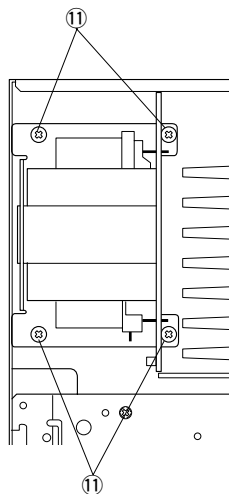

Fig. 8
- h. Remove 4 screws (11) and then remove the Power Transformer in Fig. 8.